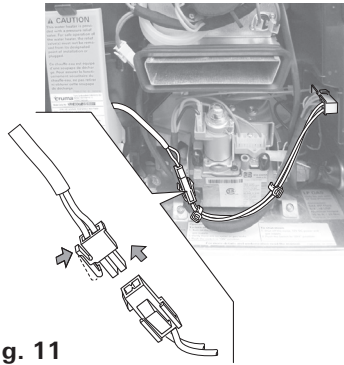

Fig. 11
- **NOTICE** You must use the water inlet filter for decalcification (included with the delivery Fig. 1 – 11a). If you are using an electric antifreeze kit, it must be removed and be unplugged from the power supply before decalcification (see Fig. 11).